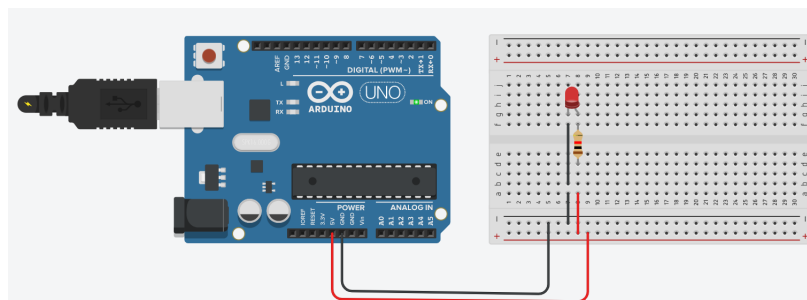

Figure 13.4: Adding a Resistor
11. Add a resistor of $1k\Omega$ (which is the default). Connect them as shown in Figure 13.4. Then, start simulation. Now you should have a healthy working LED.